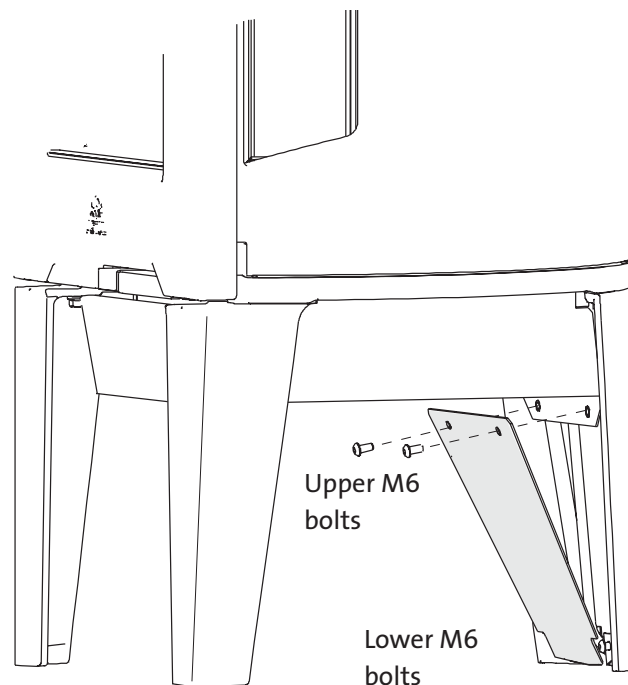

Figure 7.5. Remove Utility Panel.
10. Remove the Utility Panel from the rear leg. Fig. 7.5. Remove the upper M6 bolts and loosen the lower bolts. Remove the panel by tilting it forward and off of the lower bolts.